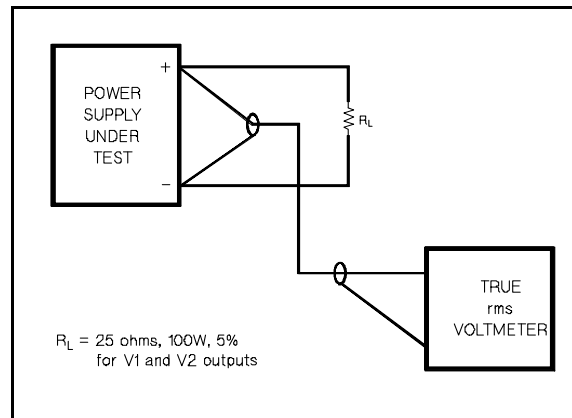

Figure A-8. Ripple and Noise rms Measurement Test Setup
- Connect the test equipment across the output of the V1 supply as shown in Figure A-8.
- Connect the test equipment across the output of the V1 supply as shown in Figure A-8, but replace the true rms voltmeter with the oscilloscope.